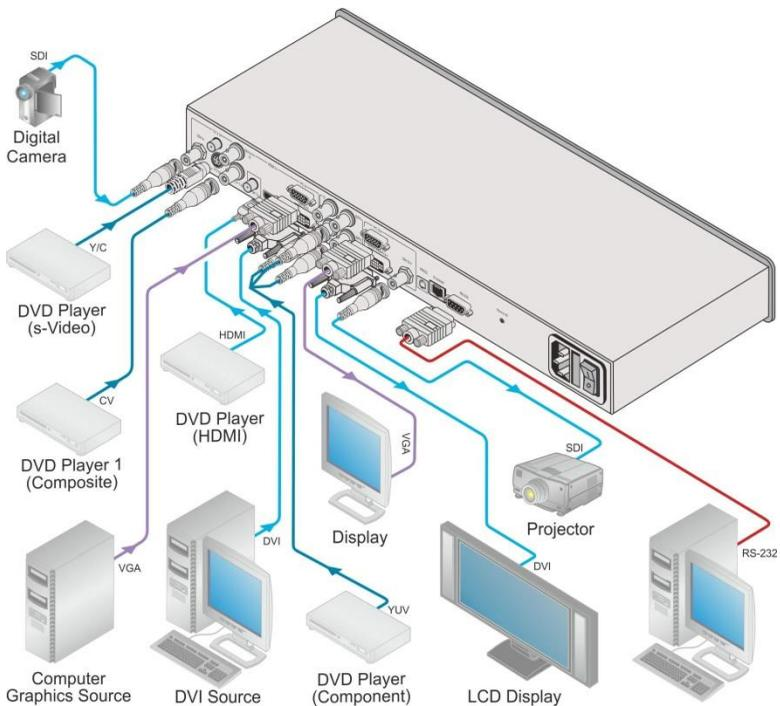

Figure 3: Connecting the VP-790 Genlock Presentation Switcher/Scaler
To connect the **VP-790**, as illustrated in the example in Figure 3, do the following:
8. Connect a composite video source (for example, a composite video player) to the CV 2 IN RCA connector (not shown in Figure 3).
9. Connect an external sync source to the GENLOCK IN BNC connector (not shown in Figure 3).
13. Connect the audio output signal to the S/PDIF OUT digital audio acceptor, as required (not shown in Figure 3).
14. Connect the power cord (not shown in Figure 3).